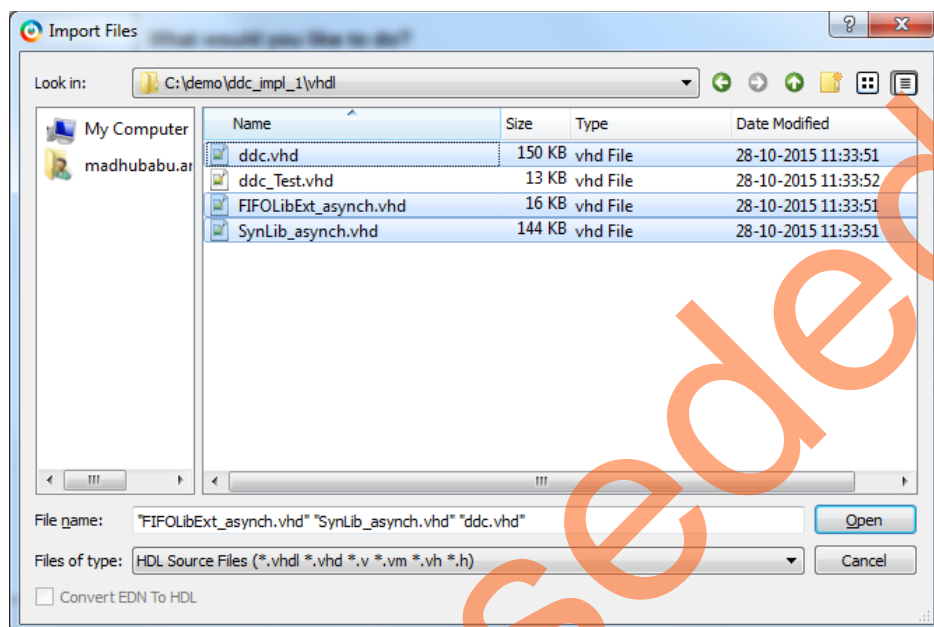

Figure 16. Importing VHDL Source Files
1. Navigate to the **File** menu in Libero SoC, and choose **Import Files**. For **Files of type** select **HDL source files** (*.vhd, *.v, *.h) and import the ddc.vhd, SynLib_asynch.vhd, and Cordic_asynch.vhd files from the path c:\demo\ddc_impl1\vhdl, as shown in Figure 16. In this design tutorial, only the ddc.vhd1 file and its associated files generated in Step 2: Create a New Libero SoC Project are used.